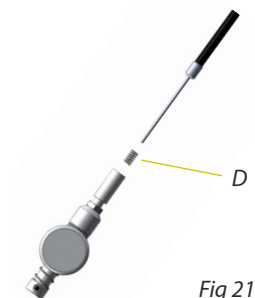

Fig 21
6. Thread the cable inside the back frame and under the seat to the tilt lock. There it threads through the sleeve (A, fig 20). Note that a spring (D, fig 21) must first be fit over the wire! **Be careful to not fray the wire!**